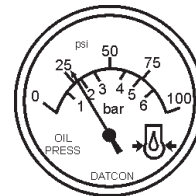

Figure 24. Oil Pressure Gauge
8. The engine oil pressure gauge (Figure 24) will indicate the oil pressure (kg/ cm²) of the engine. Under normal operating conditions the oil pressure is approximately 25 psi.